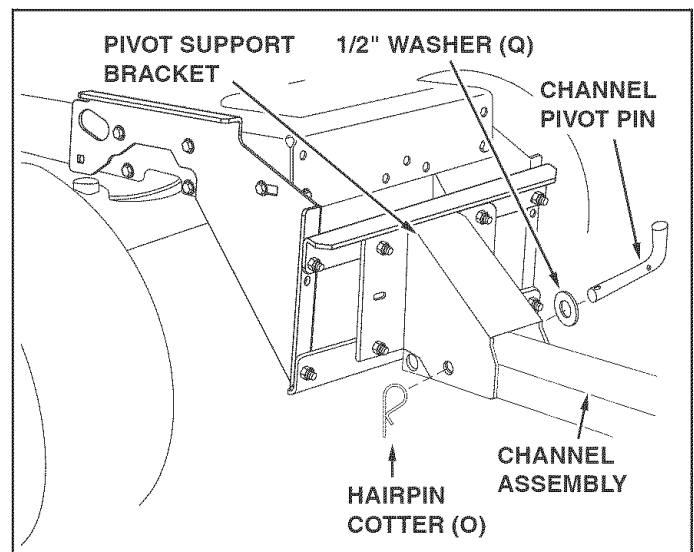

FIGURE 18 (Right Hand Side View)
STEP 18: (SEE FIGURE 18)
- Assemble the large 1/2" washer (Q) onto the channel pivot pin.
- Attach the channel assembly to the tractor by placing the end of the channel assembly up inside the pivot support bracket on the tractor. Align the hole in the pivot support bracket with the second hole from the end in the channel assembly. Insert the channel pivot pin through the aligned holes from the left side and secure with a hairpin cotter (O).
- Remove the hairpin cotter from the channel pivot pin and remove the pivot pin from the channel assembly. See figure 18 on page 9.